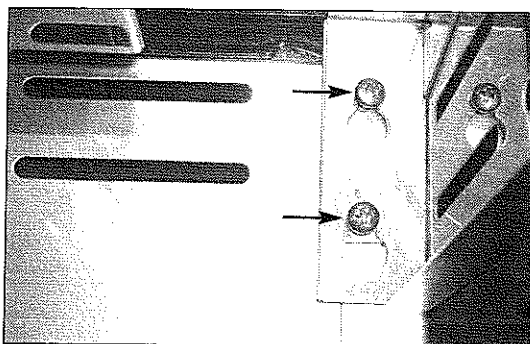

Fig 7
7. Use a phillips head screwdriver to loosen the back two screws holding the right side shelf on the right side of the grill. (See Fig. 7)
38. Tighten the two screws on the back of the shelf. (See Fig. 7 on Page 3)